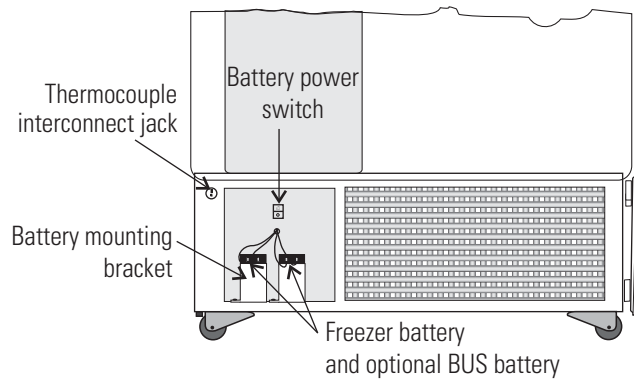

Figure 5-2. Battery Location
3. Turn off the battery switch (O). See Figure 5-2.